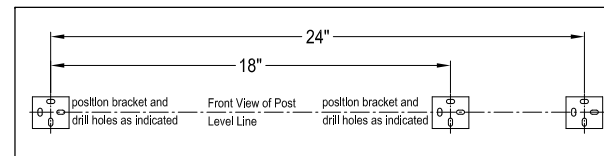

Fig. 1
- Step 1. Locate where you would like to install the towel bar by measuring from end to end on the towel bar then measure the desired height on the wall where the towel bar will hang (fig 1).